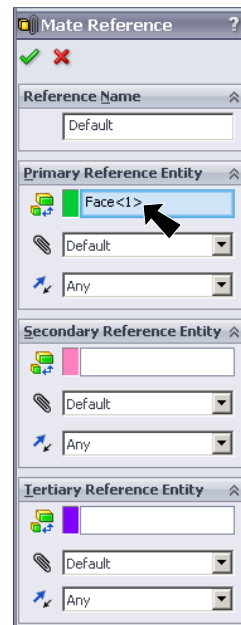

Fig. 9
Step 3. In the Mate Reference Property Manager click **OK** , **Fig. 9**.